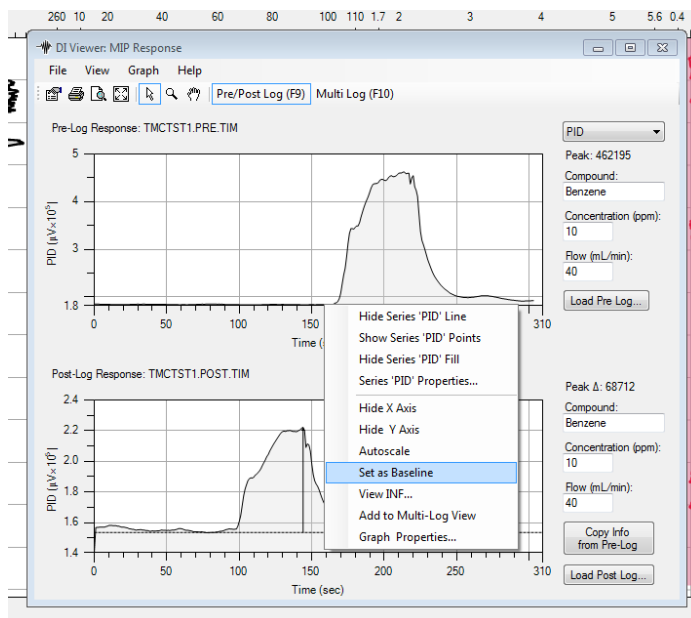

Figure 37: Setting a Peak Response Baseline & Peak Lines
8. Select *Set as Baseline* (Figure 37).